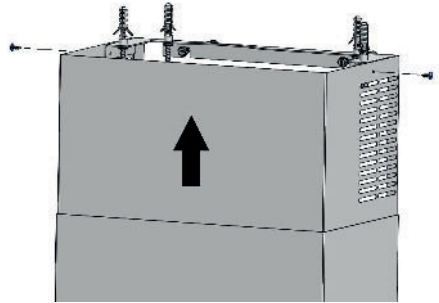

Fig.12
- › Lift up the internal chimney until it covers the bracket and secure it by fixing the screws on both sides (Fig.12).